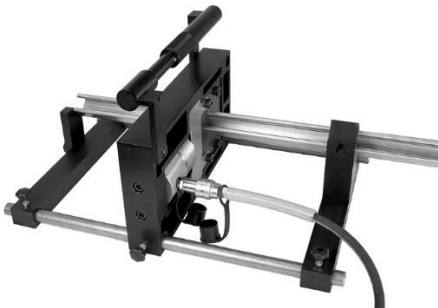

Figure 4: operation
3. When correct operation is verified, place strut upon material rest and slide through cutting die. See Figure 4. Make sure strut is clean and straight.